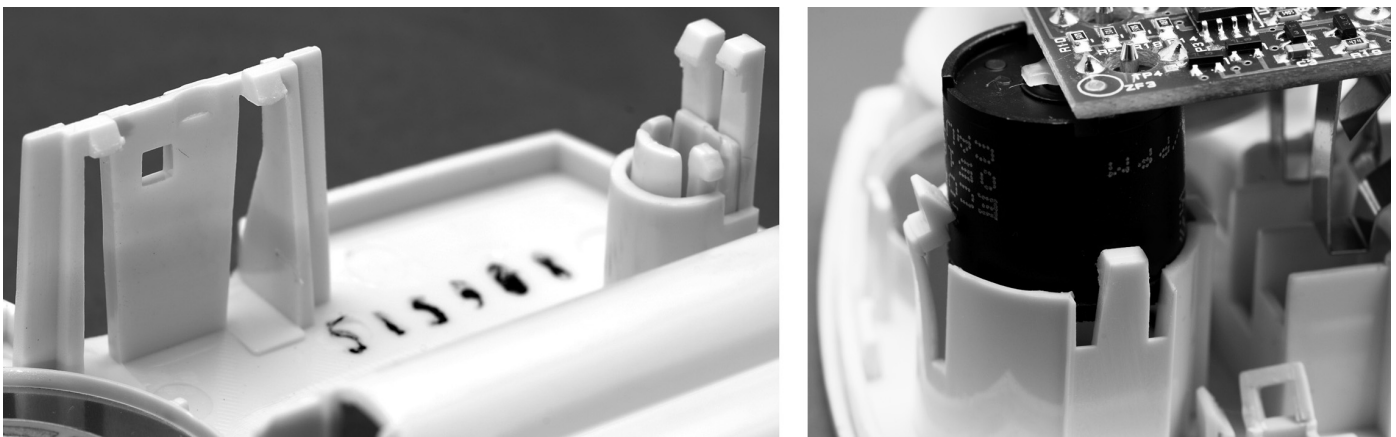

Fig. 5
- (iii) The casing of the alarm has been clipped together rather than using screws. The clips can be seen in Fig. 5.